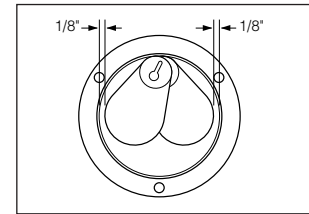

Figure 2
2. Adjust set screw until valve paddle is 1/8" away from inside O-ring land edge as shown in Figure 2.